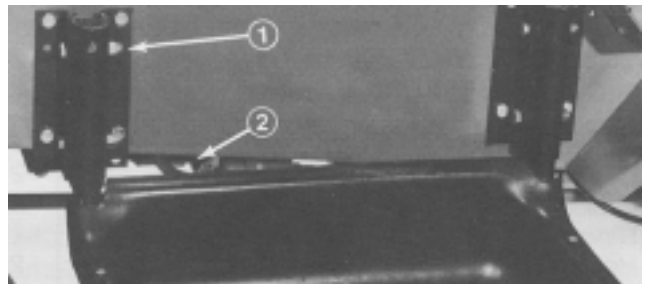

Figure 4
1. Mount lower support tube assembly to brackets with (4) 3/8-16 x 2-1/4" lg. capscrews and locknuts (Fig. 4).